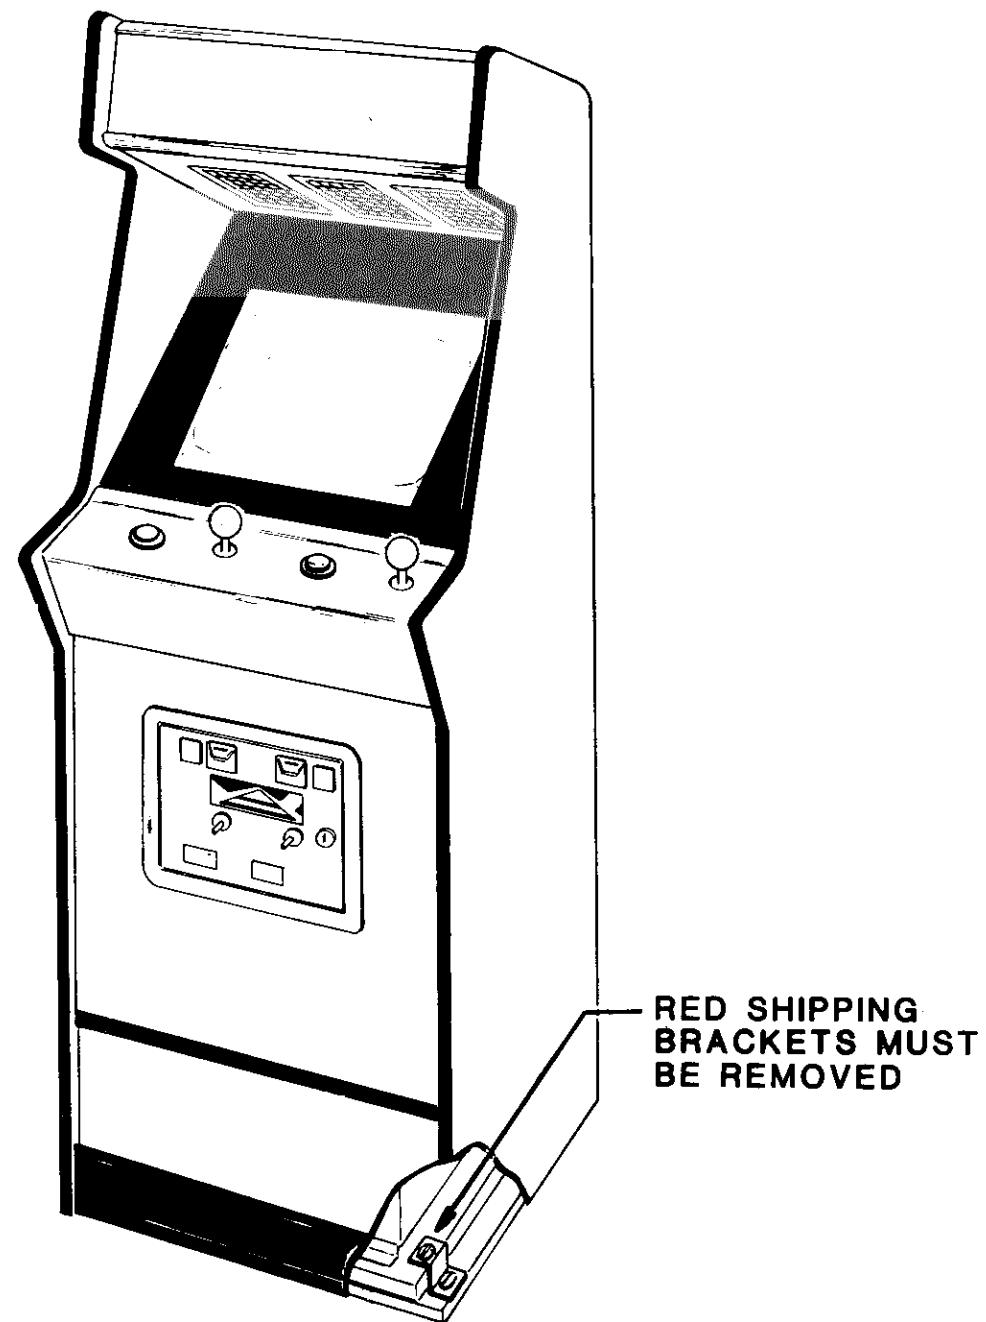

FIG.3
4. Install the four levelers, one at each corner of the cabinet. See Figure 3.